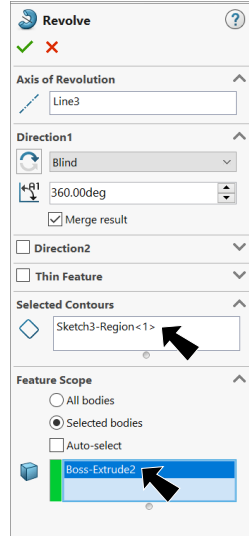

Fig. 18
- under Axis of Revolution  centerline will be selected, **Fig. 18**